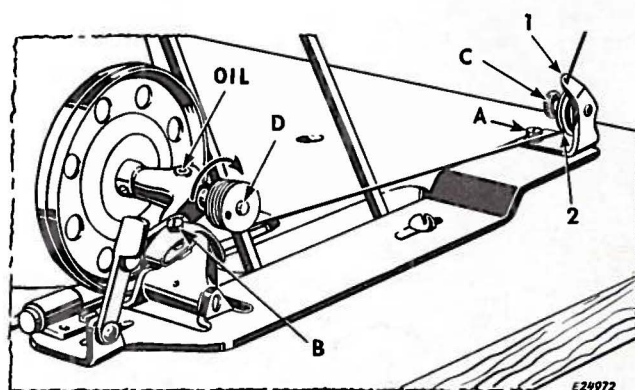

Fig. 7. Winding the Bobbin
Pass the thread down through the thread guide (1) in the tension bracket, around the back of and between the tension discs (2). Then wind the end of the thread around the bobbin a few times in the direction shown in Fig. 7, push the bobbin winder pulley over against the machine belt and start the machine.
When winding a bobbin with fine thread, a light tension should be used. Adjust the knurled nut C, Fig. 7 to regulate the tension.